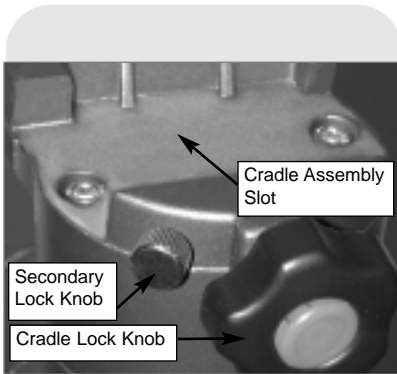

Fig. 7: Attach cradle to base mounting slot and tighten locking knobs.
- Attach the cradle assembly to the mount:** Remove the optical tube from the cradle and slide the cradle assembly (**11, Fig. 1a**) onto the cradle mounting slot. See **Fig. 7**. The rounded base of the cradle assembly fits into the rounded portion of the mounting slot. Tighten both the cradle locking knob and the secondary locking knob to a firm feel.